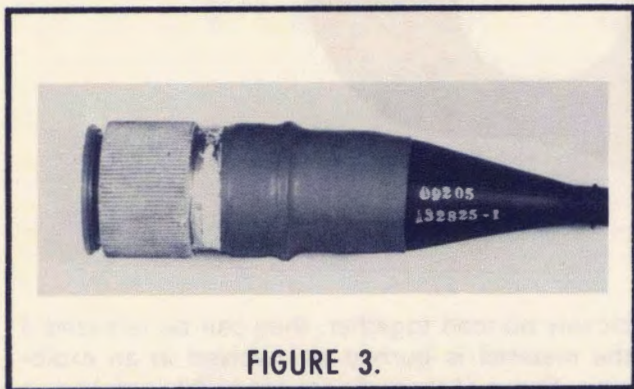

FIGURE 3.
- a. For AERO-3B launcher equipped units---use of a two-inch length of shrink tubing insulation sleeving over the umbilical connector cannon plug leaving only part of the adapter cannon plug exposed. A heat gun is used to shrink the tubing. (See figure 3)